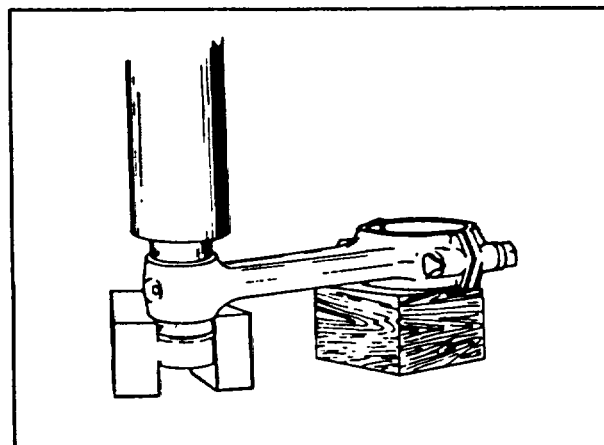

Figure 6-3. Pressing Out Old Piston Pin Bearing With New Bearing
6-20. CONNECTING ROD BEARING. Check fit of piston pin (18, figure 4-28) in connecting rod bearing (23). See figure 7-1 for specifications. If clearance is excessive, using an arbor press and suitable support press out worn bearing and press in new one in one operation using the new bearing as a driver (figure 6-3). Bearing must be honed on a honing machine to obtain proper fit.